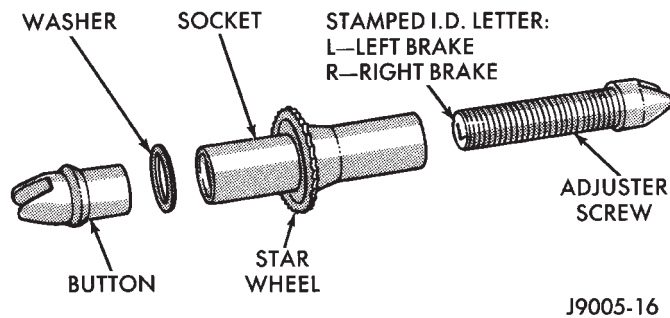

Fig. 5 Adjuster Screw Components (9-Inch Brake)
(13) Lubricate and assemble adjuster screw (Fig. 5).
(14) Install adjuster screw, spring and lever and connect to adjuster cable.